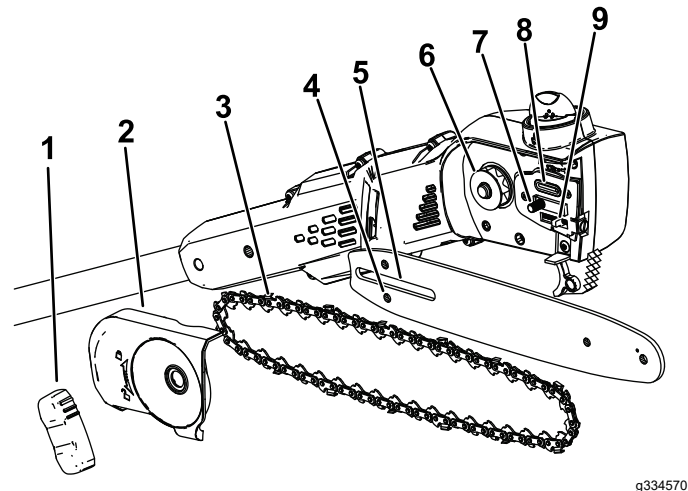

Figure 19
2. Remove the side cover; turn the bar cover knob counterclockwise until the knob is removed and then remove the side cover (Figure 19).
7. Check the oil outlet (Figure 19) for debris and clean the area if necessary.
Important: Ensure that the chain adjusting stud is inserted into the chain adjusting stud slot on the guide bar (Figure 19). You may need to rotate the chain-tensioning screw to fit the stud into the hole in the guide bar.